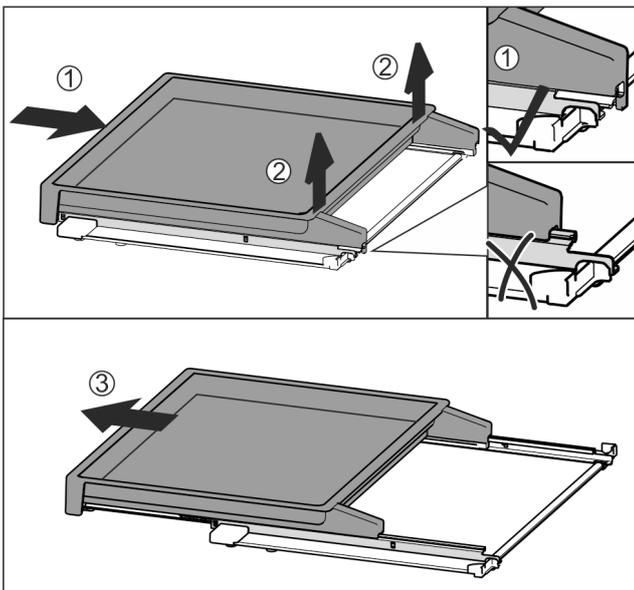

Fig. 32
- ▶ Slide the pull-out board all the way in Fig. 32 (1).
- ▶ Release the clips at the back Fig. 32 (2).
- ▶ Remove the pull-out board from the front Fig. 32 (3).